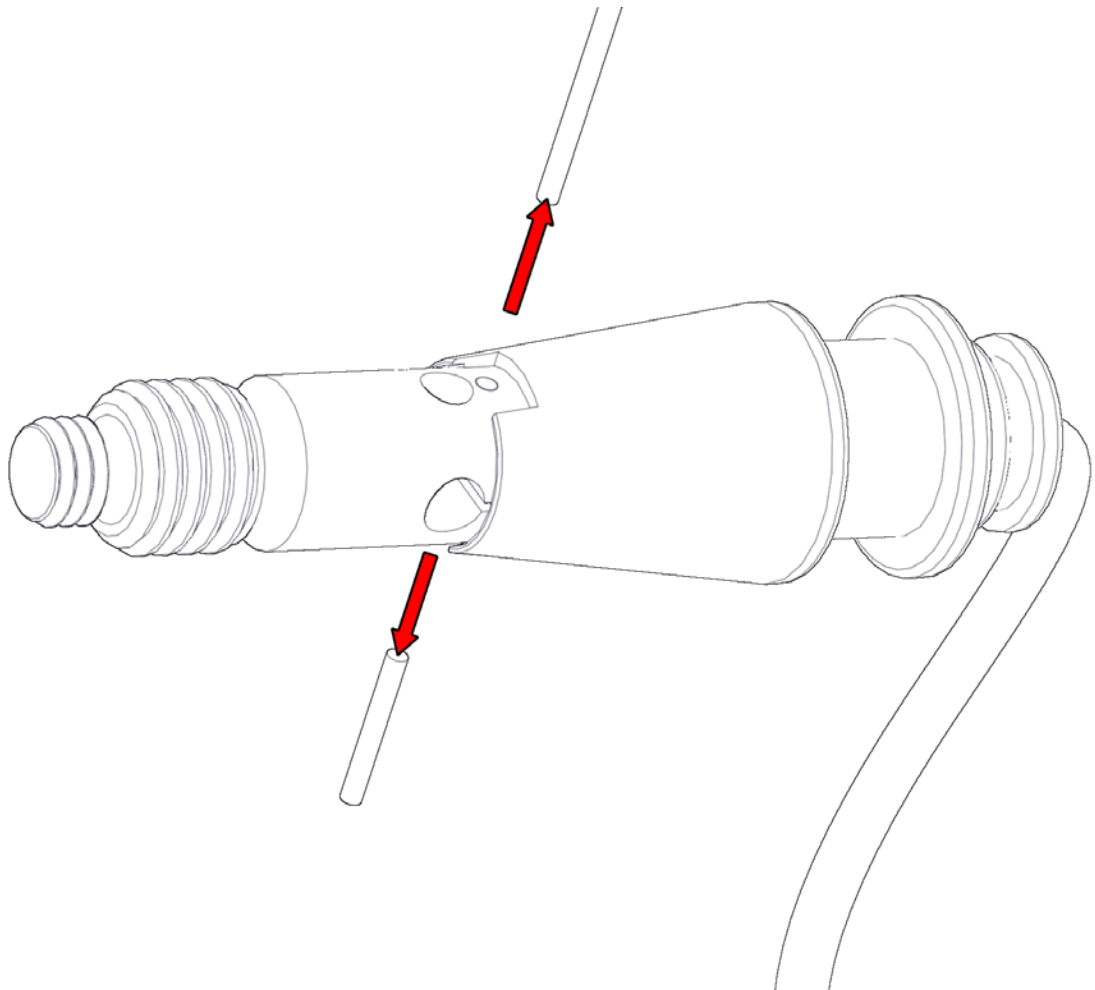

Figure 2-16 *Trimming the monofilament.*
4. Trim the long end of the monofilament flush to the release housing (Figure 2-16).